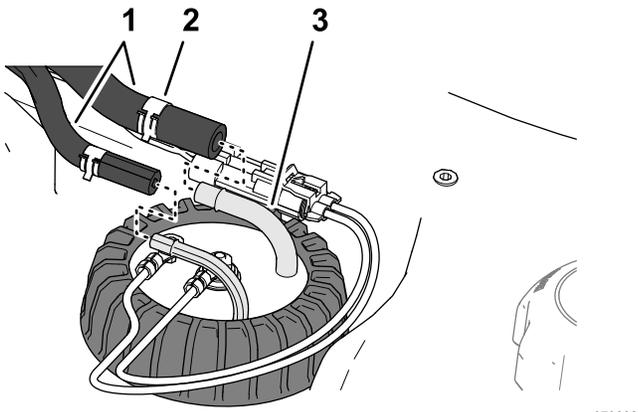

Figure 94
- 5. Assemble the hose onto the fittings of the fuel sender, and secure the hoses to the fittings with the clamps (Figure 94).